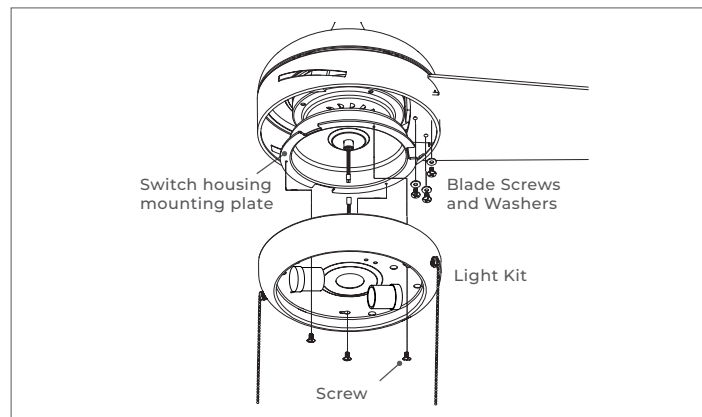

FIGURE 4
**A)** Remove three screws from light kit and lift light kit aside (Figure 4).
**E)** Loosen the set screws (2) in the support rod coupler until the inside of the channel is clear of the screw tip.